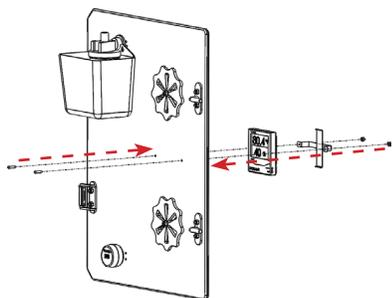

FIGURE 3.6 - Thermometer (Front View)
STEP 1: Remove the two screws and acorn nuts to remove the bracket and meter. See FIGURE 3.6